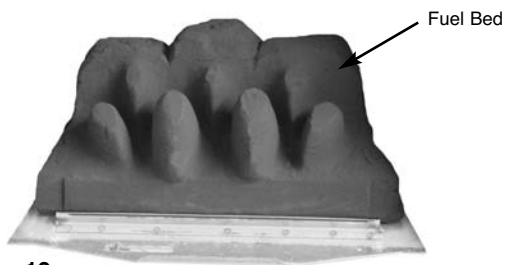

Fig. 19
1. Place the main fuel bed on to the middle section of the metal burner tray. It is important that the front edge of the fuel bed is located behind the burner strip (Fig. 19).